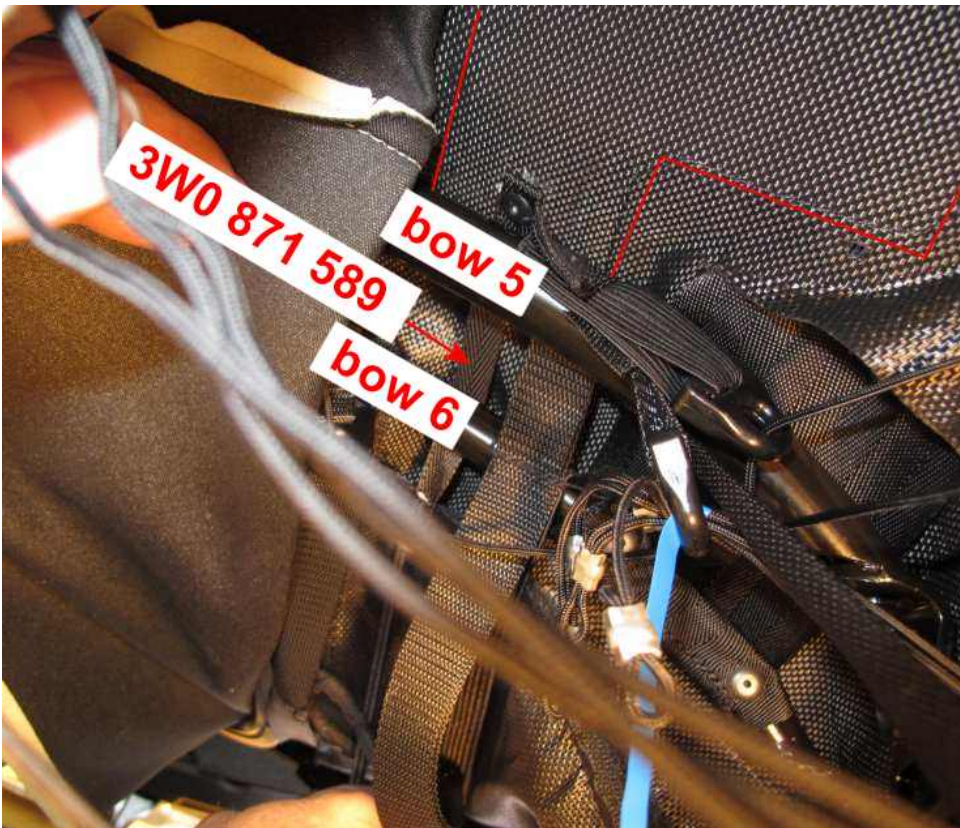

Figure 10
- Referring to Figure 10, Ensure the strap is routed under bow 5 and 6